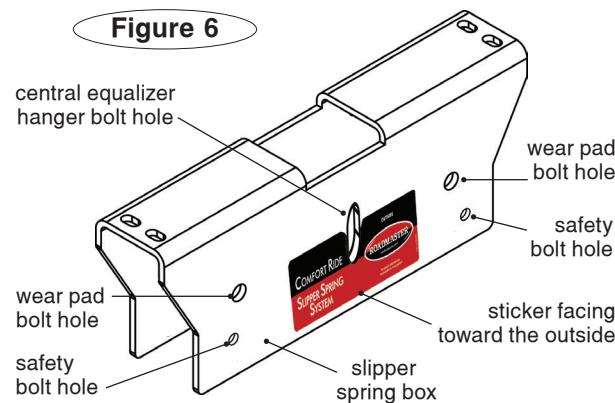

Figure 6
- b. With the sticker (Figure 6) facing the outside of the trailer, slide the slipper spring box up and over the equalizer hanger bracket. Align the central slotted hole on the slipper spring box to the hole in the equalizer hanger bracket.
12. Installing the new slipper springs (refer to Figure 6 for the bolt locations in steps 12 and 13):
- b.** Insert a 7/16" bolt through the safety bolt hole (refer to Figure 6), a 2 1/2" pipe spacer, and then through the other side of the slipper spring box.